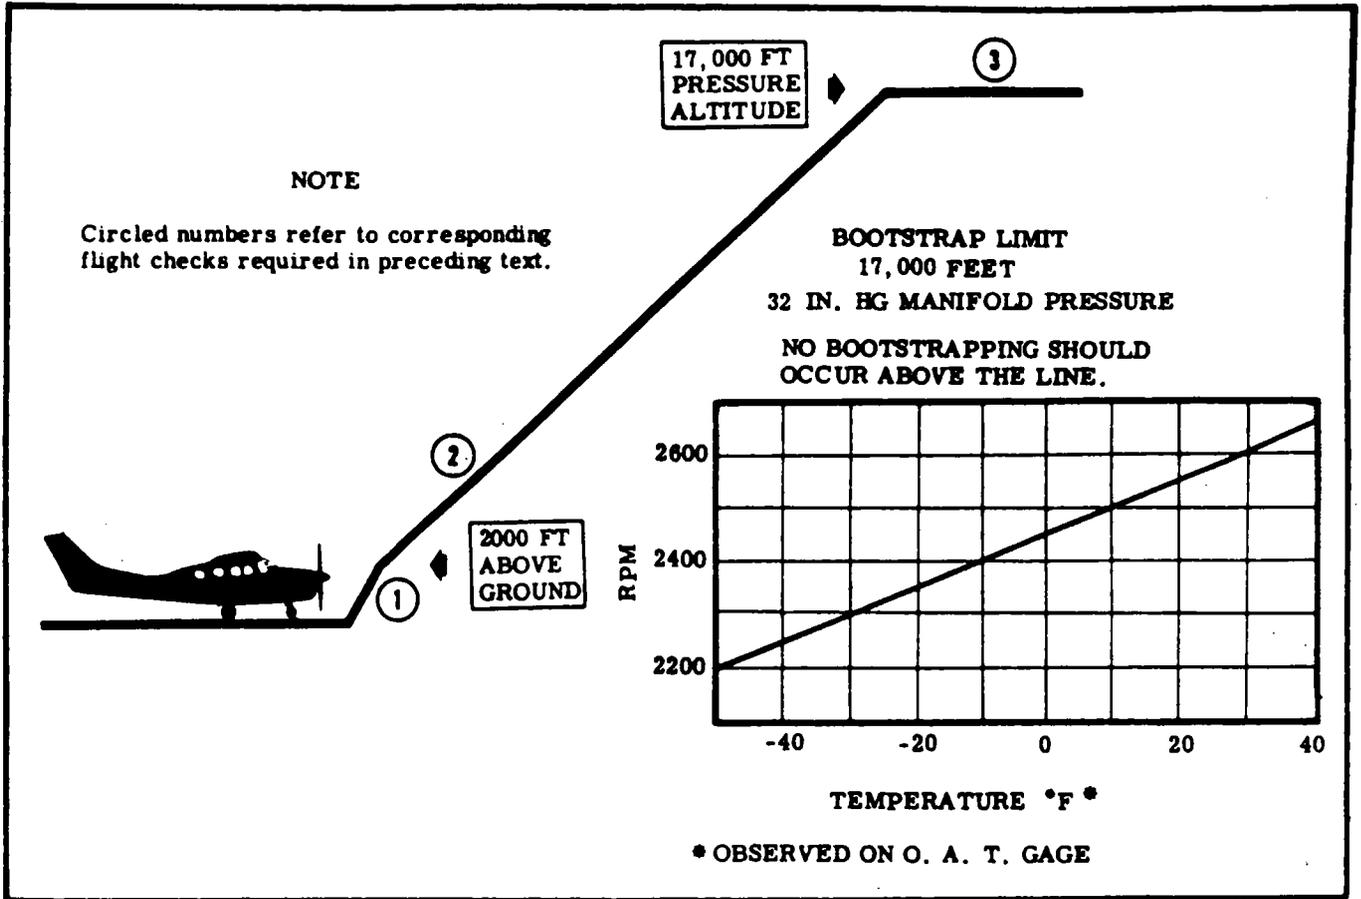

Figure 12-17. Operational Flight Check
If the waste gate closes at engine speeds lower than shown on the chart in figure 12-17, the turbocharger performance is normal. If the waste gate closes at engine speeds higher than shown in figure 12-17, refer to the trouble shooting chart in paragraph 12-112.
- (2) Note outside air temperature and RPM as manifold pressure starts to drop, which should be in accordance with the chart in figure 12-17.
- (3) After noting temperature and RPM, increase engine speed 50 RPM to stabilize manifold pressure, with the waste gate modulating exhaust flow to control compressor output.